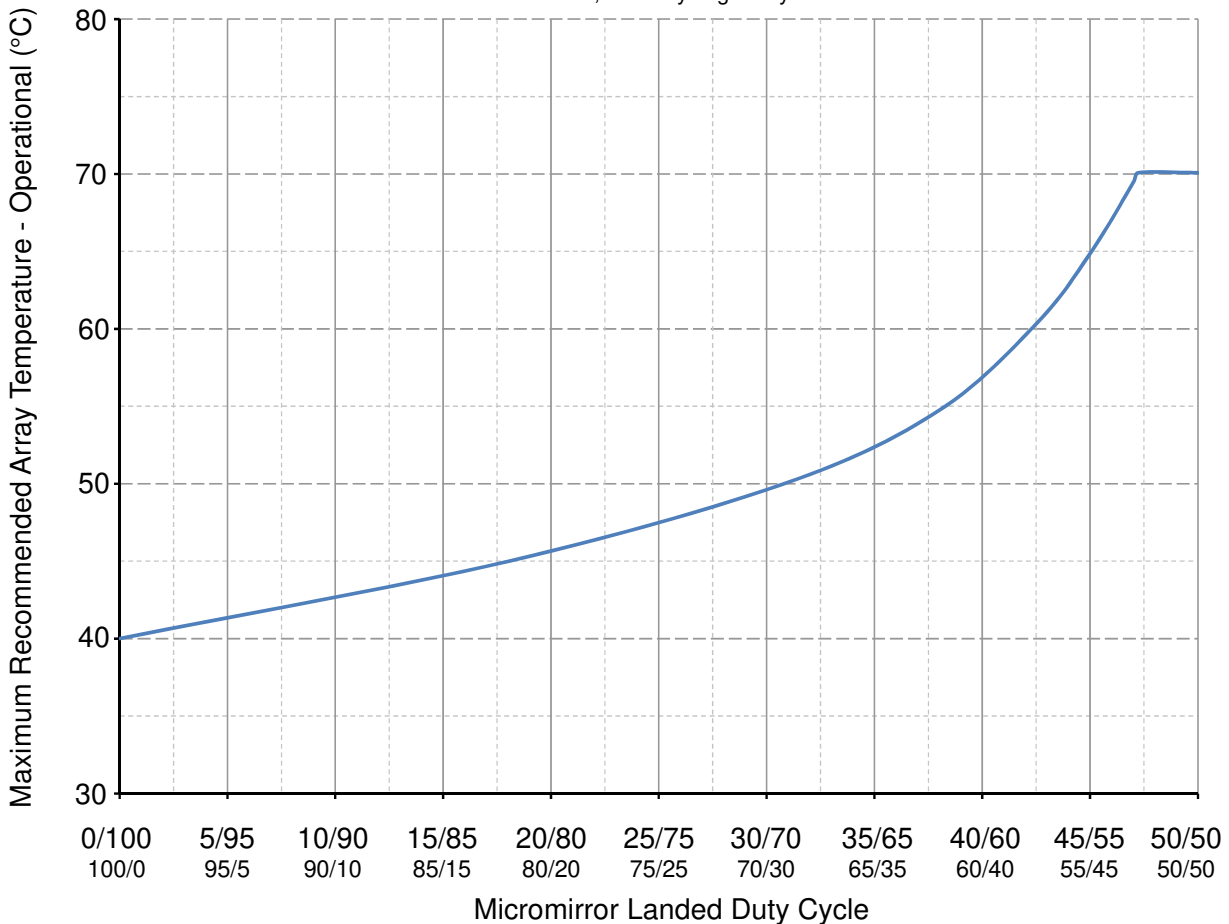

Figure 5-1. Maximum Recommended Array Temperature—Derating Curve
- (13) Long-term is defined as the usable life of the device.
- (14) Per Figure 5-1, the maximum operational array temperature should be derated based on the micromirror landed duty cycle that the DMD experiences in the end application. See Section 6.8 for a definition of micromirror landed duty cycle.
- (15) Short-term is defined as cumulative time over the usable life of the device.